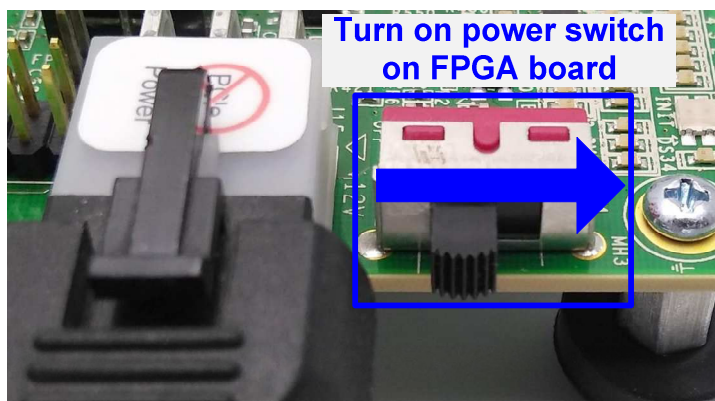

Figure 2-6 Turn on power switch
- 7) Turn on ATX power supply for FMC-to-PCIe card power and FPGA development board, as shown in Figure 2-6.